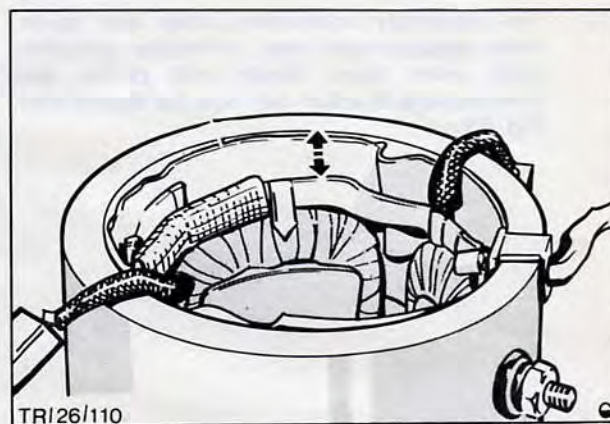

Fig. 66. Arrows indicate minimum clearance to be between edge of field coil and end face of yoke
- C. A minimum clearance of 10,3 mm (0,4 in) between the edge of the field coil assembly and the end face of the yoke, Fig. 66.